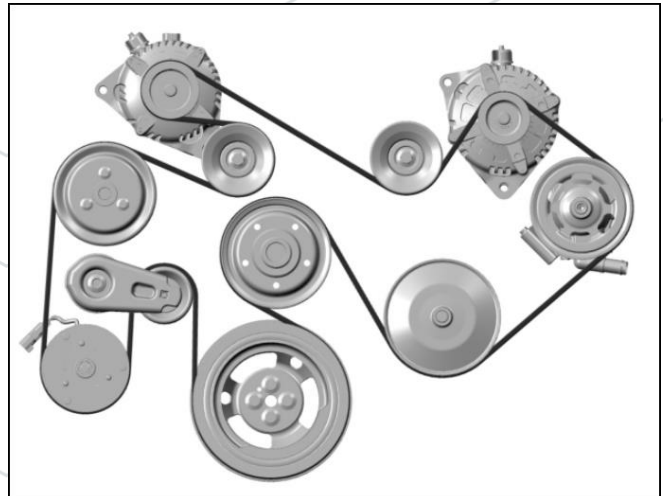
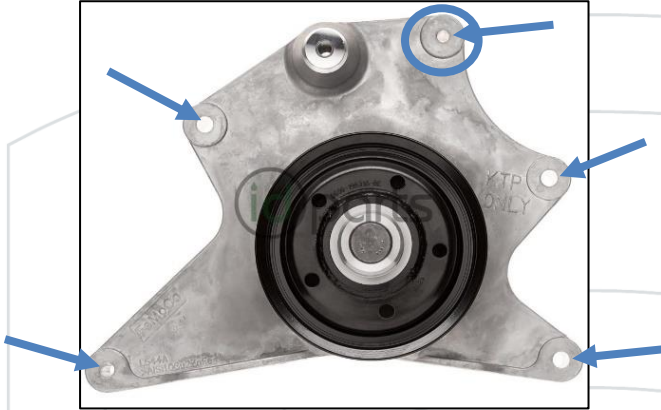

Figure 16: Belt Layout (Dual Alternator)
Figure 17: Cooling Fan Hub Bolt Locations
- a. Remove the top right bolt in Figure 17 holding the electrical bracket to the fan hub casting in Figure 16.
- b. *NOTE: You can leave the fan connected to the bracket and remove the Fan Hub as an assembly if the fan is difficult to knock loose but the lower bolts are difficult to access with the fan on (Figure 17).*
**28. Remove the remaining four bolts securing the cooling fan hub assembly (Figure 17).**
**13. Install the cooling fan hub mounting assembly. Torque the five mounting bolts to 18 lb-ft (Figure 17).**
**16. Connect the cooling fan electrical connector & bracket to the fan hub using the remaining long bolt (Figure 17).**